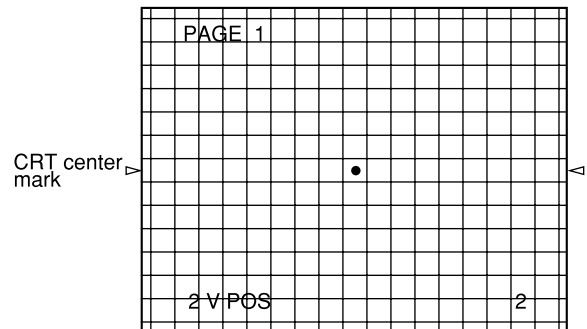

Fig.1-2
- Using the volume keys on the jig remote controller, adjust the dot mark in the centre of crosshatch screen to the exact vertical centre position by allocating an equal number of squares on both top and bottom of the dot. (Fig. 1-2)